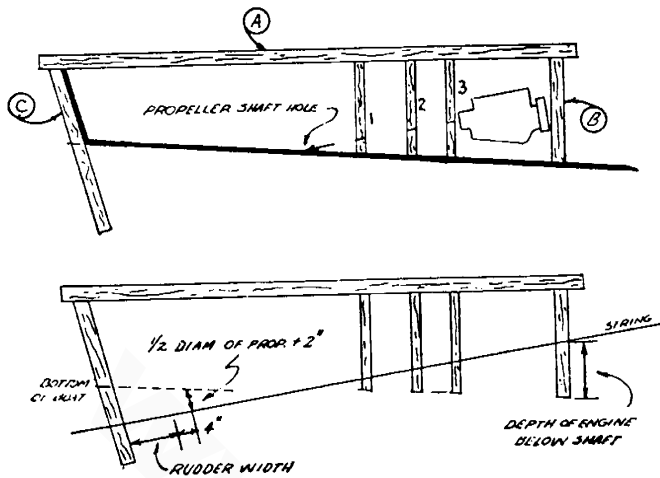

Fig. 2 Method of Locating Shaft Hole
If full scale drawings of the boat are not available, another simple method of locating this spot is to lay a length of 1 x 4 lumber from the center of the transom forward to a spot well beyond the determined engine location. (See Fig. 2). Temporarily prop this strip (A) in place so it is roughly parallel to the keel. To this, and at a right angle to it, nail another strip (B) at the point where the flywheel of the engine will be located. Fasten a second strip (C) so that it passes outside the stern, follows the angle of the stern and projects at least three feet below the bottom of the boat. Narrow strips are now fastened to the top strip, approximately every foot along its length and at right angles to it, so that the ends of the sticks just touch the bottom of the boat. This jig, which actually is a full sized pattern of the inside of the boat, can now be removed and laid flat on the floor.
justed to obtain proper propeller clearances and crankcase and flywheel clearance for the engine. When the position of the string has been accurately determined, the place it passes each of the sticks is carefully marked and the jig placed back in the boat. It is then a simple matter to lay a straightedge along these marks (1, 2, 3 on Fig. 2) to the bottom of the boat which will give the position and angle of the shaft hole.